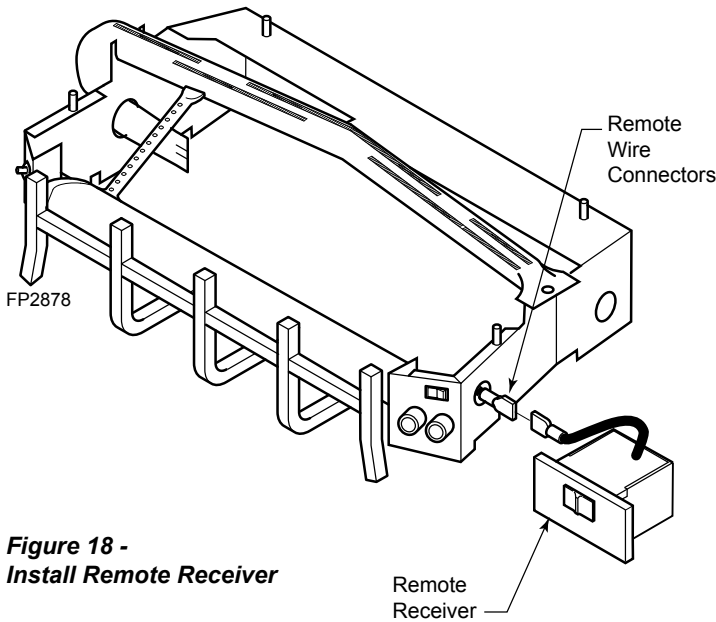

Figure 18 - Install Remote Receiver
Connect the connectors to the two (2) .25" male connectors located on the right side when facing the unit. *Figure 18*. Do not allow the wire to touch the grate or burners.